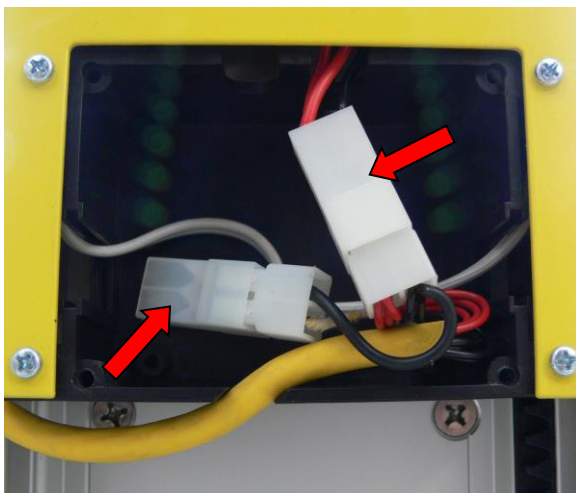

Figure 3 – Unplug wiring
6. Remove the four screws from the black cover on the **CommandLIFT™** Motor Unit and unplug the two LED light wiring harnesses in the Motor Unit (see Figure 3, below).
2. Plug in the two wiring harnesses that are located in the plastic box on the motor unit (refer to figure 3 on the previous page).